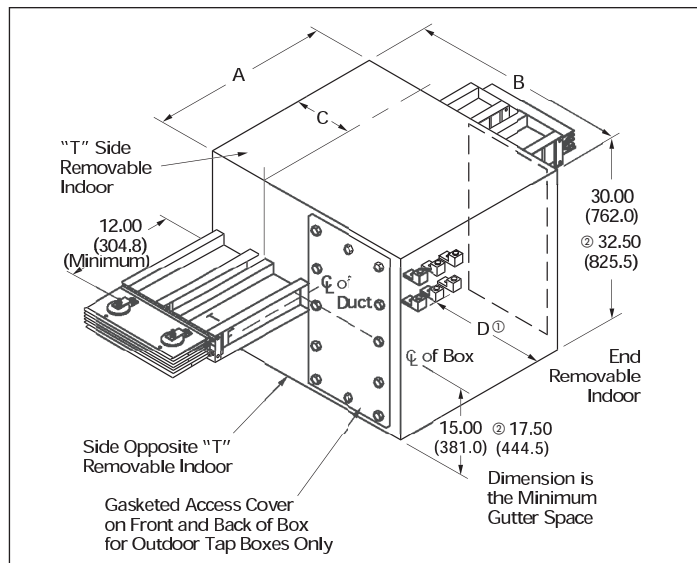

Figure 28. Center cable tap box
Center cable tap box (Figure 28)
- ① For compression lugs, factory provides provisions only.
- ② All dimensions shown in **Figure 28** remain constant regardless of system wiring configuration.
- ③ Denotes quantity of terminals per ground bus.
- ④ Denotes quantity of terminals per phase and 100% neutral bus.
- ⑤ Denotes quantity of terminals per 200% neutral bus option.